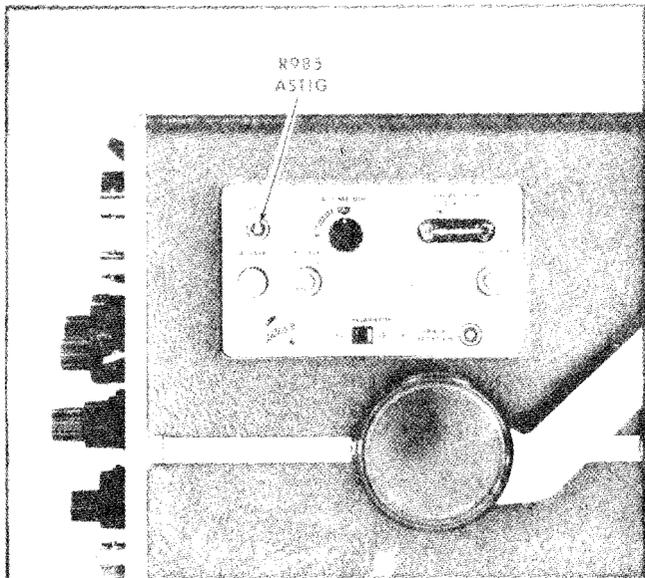

Fig. 6-11. Location of ASTIG adjustment (side panel)
- g. ADJUST-FOCUS control and ASTIG adjustment, R985 (see Fig. 6-11), for best definition of the markers.